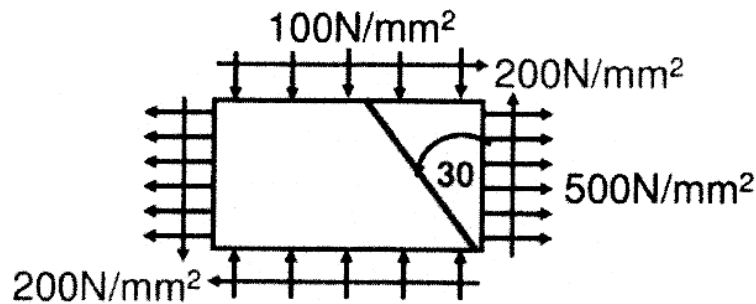

Figure 6
16. (a) A point in a strained material, the intensities of normal stress across two planes at right angles to each other are 500 N/mm^2 (tensile) and 100 N/mm^2 (compressive) and a shear stress of 200 N/mm^2 across the planes as shown in Figure 6. Locate the principal planes and evaluate the principal stresses. Also locate the planes of maximum shear stress and find the values. Find normal, tangential stresses on a plane inclined at 30° as shown in Figure 6. (15)